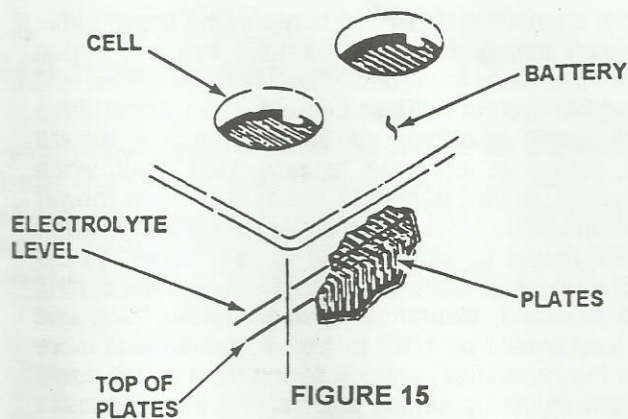

FIGURE 15
- Remove battery cell caps. Fill cells as required with electrolyte to proper level. Fill to 3/16" above cell plates. See Figure 15.